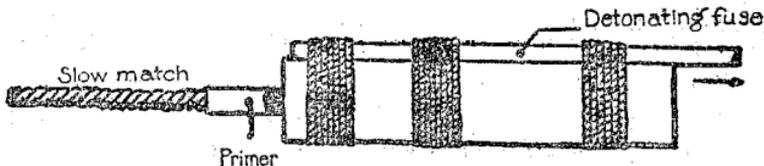

FIG. 85.—Priming the detonating fuse with one petard.
*Priming a melinitic petard.*—First. With a safety fuse and one primer, as in figure 85. Second. With a detonating fuse like the lower petard in figure 88.